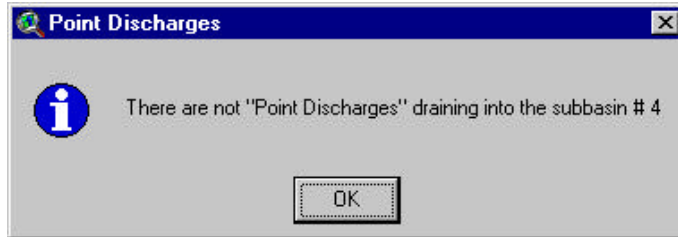

Figure 4.25
- ii. If the mouse cursor was located over a subbasin with no point discharges when right clicked, a message box will notify the user (Figure 4.25).